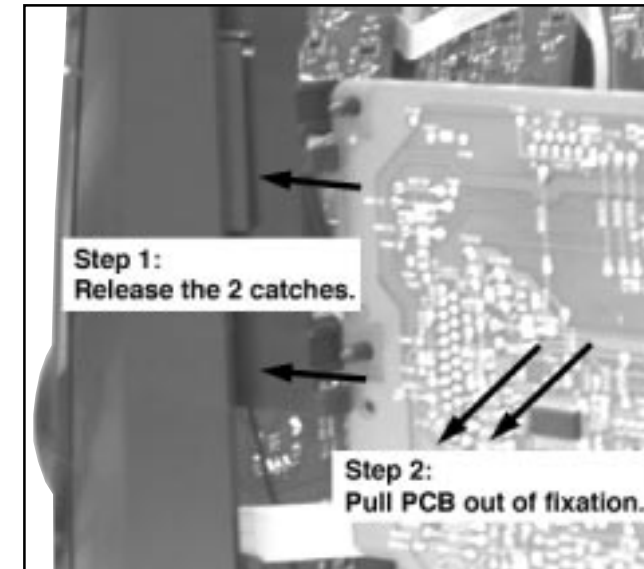
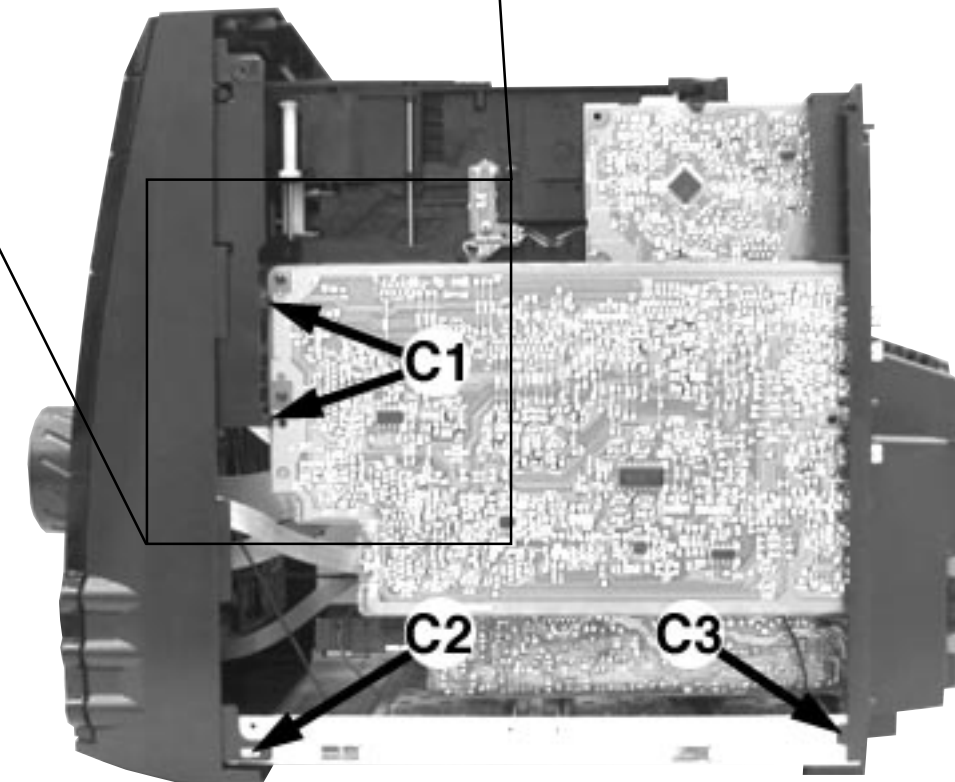
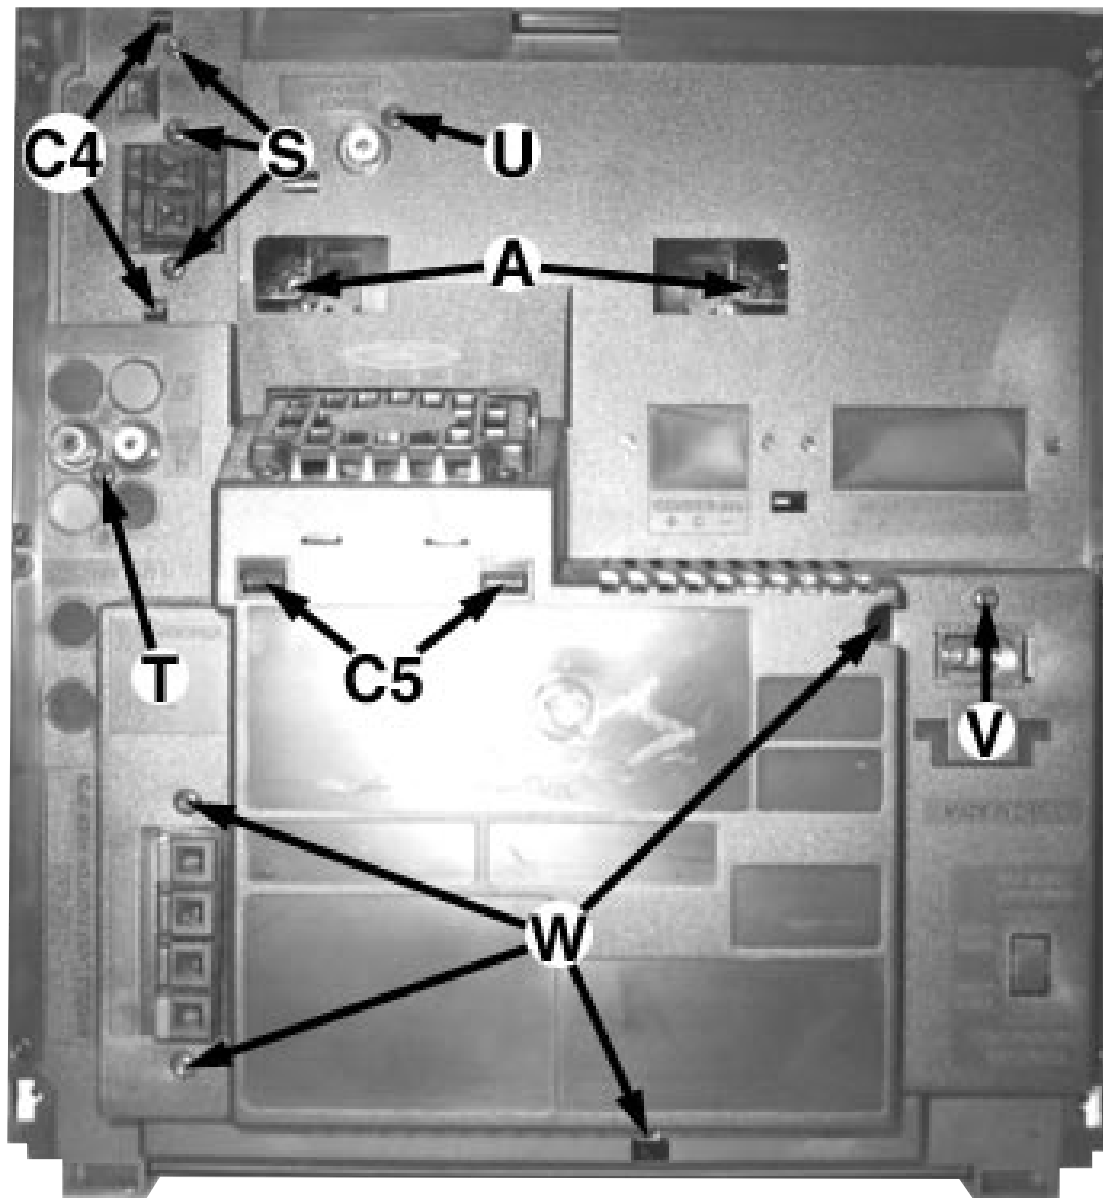

Figure 6
Figure 7
Figure 16
- 4) Loosen 4 screws A (see Figure 4 and Figure 16) to remove the 5DTC Module (pos 1105).
- 2) Release the fixation of the AF Board (pos1102-A) to Bracket CDC Right (pos 186) by releasing the 2 catches C1 (see Figure 7) and pulling the AF Board outwards as shown in Figure 6.
- 3) Uncatch 2 catches C2 (see Figure 7) on the left & right sides of the Cabinet Front (pos 101) and slides the Front Panel assembly out towards the front.
- 1) Loosen 3 screws S and 2 catches C4 (see Figure 16) to remove the Tuner Board assembly.
- 2) Loosen 1 screw T (see Figure 16) to free the AF Board (pos 1102-A).
- 3) Loosen 1 screw U (see Figure 16) to remove the Video Cinch Out Board (pos 1102-B).
- 4) Loosen 1 screw V (see Figure 16) to free the Mains Socket Board (pos 1106-1001-B).
- 5) Loosen 4 screws W (see Figure 16) and 2 catches C3 (see Figure 7) to remove the Panel Rear (pos 256) by sliding it out towards the rear (see Figure 19).
- 6) Loosen 2 screws Y (see Figure 17) and 2 catches C5 (see Figure 16) to remove the Bracket Fan (pos 266).